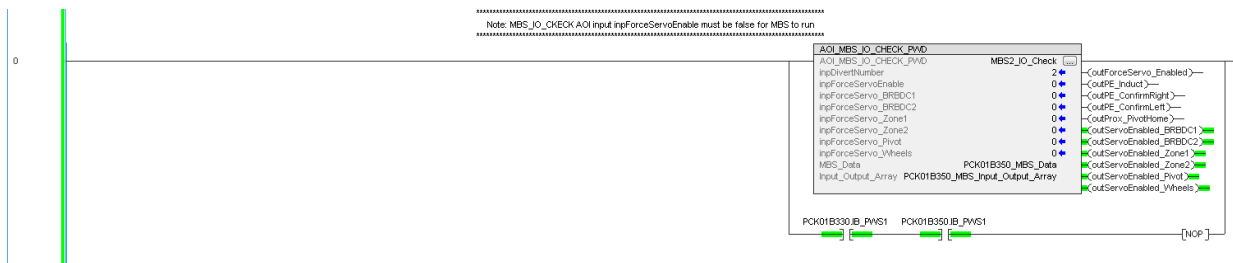

Figure 28: PWD AOI_MBS_IO_CHECK
- c. PWD (AOI_MBS_IO_CHECK) shown in Figure 28.